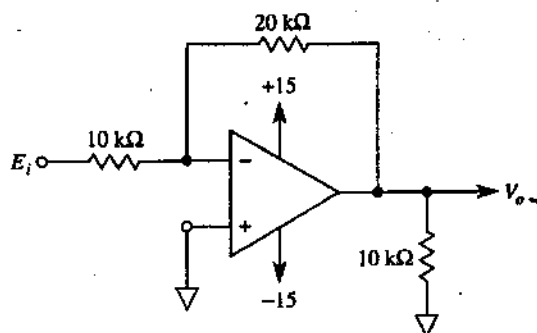

FIGURE P3-4
- 3-4. Identify the circuit in Fig. P3-4.
- 3-5. Calculate  $V_o$  and the op amp's output current in Fig. P3-4 if  $E_i$  equals (a)  $+5\text{ V}$ ; (b)  $-2\text{ V}$ . For each situation, state if the op amp sources or sinks current.
- 3-6. Calculate  $E_i$  in Fig. P3-4 if  $V_o$  equals (a)  $+5\text{ V}$ ; (b)  $-2\text{ V}$ .
- 3-7. Let  $E_i$  be a triangle wave with a frequency of  $100\text{ Hz}$  and a peak value of  $5\text{ V}$  in Fig. P3-4. (a) Plot  $E_i$  and  $V_o$  vs. time; (b)  $V_o$  vs.  $E_i$ .